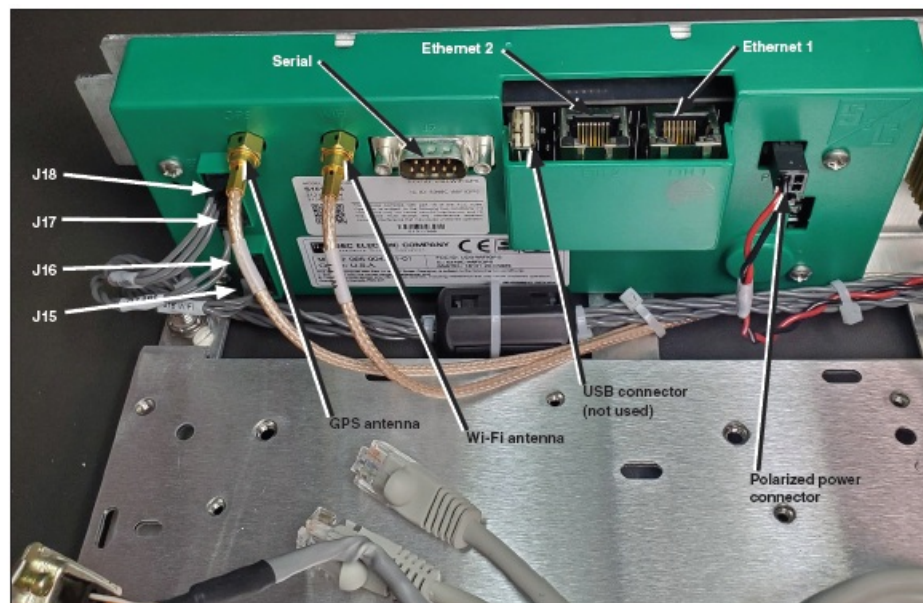

Figure 14. The R3 Wi-Fi/GPS module connections, with no communication device installed.
6. Step 6. Attach cables to the Wi-Fi/GPS module. See Figure 14.
1. STEP 1. At the communication device, unplug the RJ45 cable that runs between the communication device and the control module. See Figure 14 on page 11.